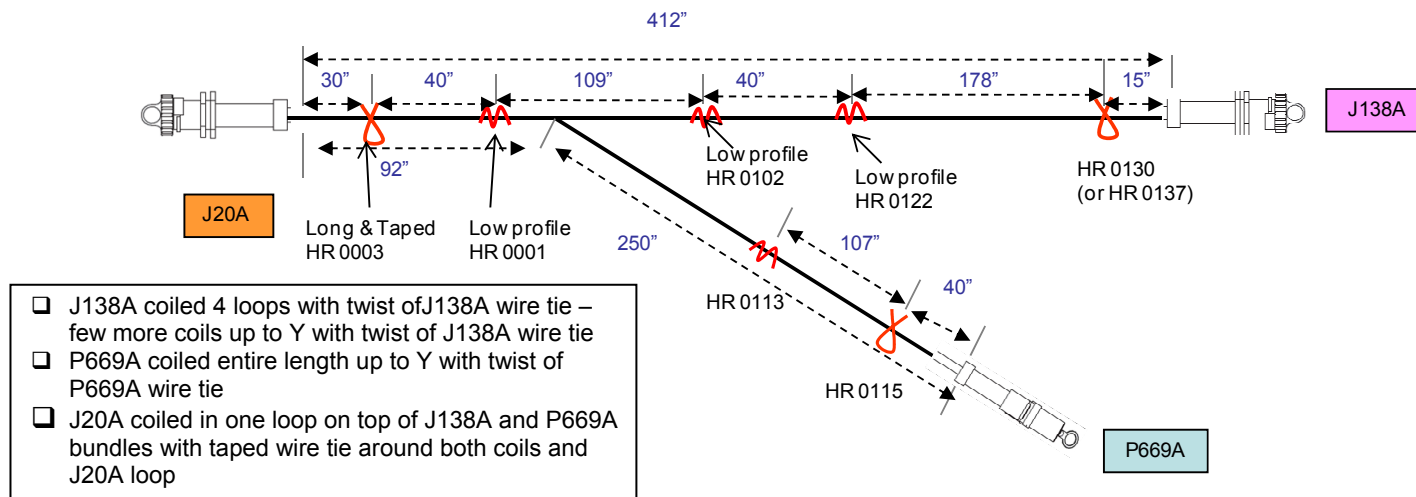

Figure 5: Ch 2/3 FGB Y-Cable (stbd)
- NOD1/FGB Ch 2/3 Cables (see fig 5)